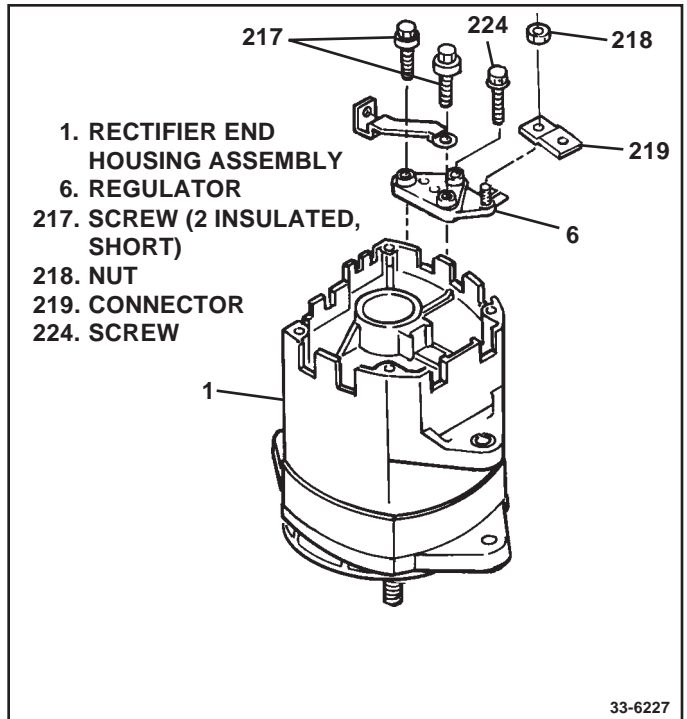

**Figure 15. Electrical Check of Capacitor**
Using continuity check mode (diode check mode on digital meter), check for a shorted capacitor by touching ohmmeter leads to capacitor lead (F) and grounding tab (T). (See Fig. 15) This check should show an open circuit.